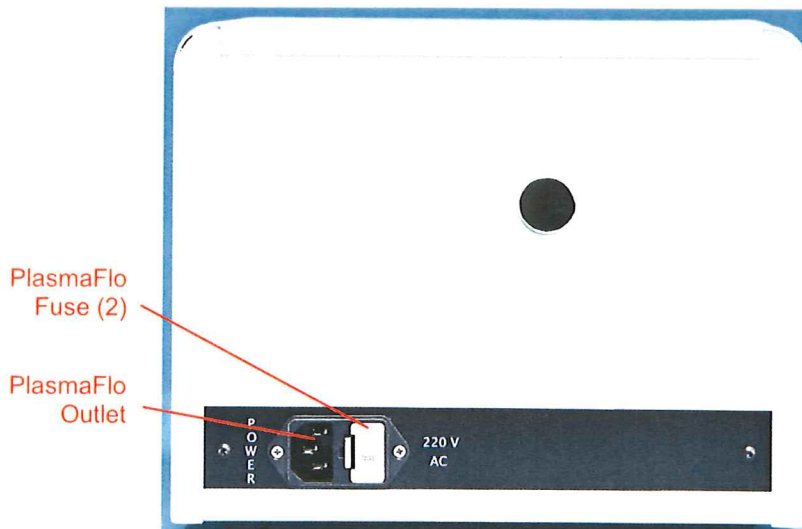
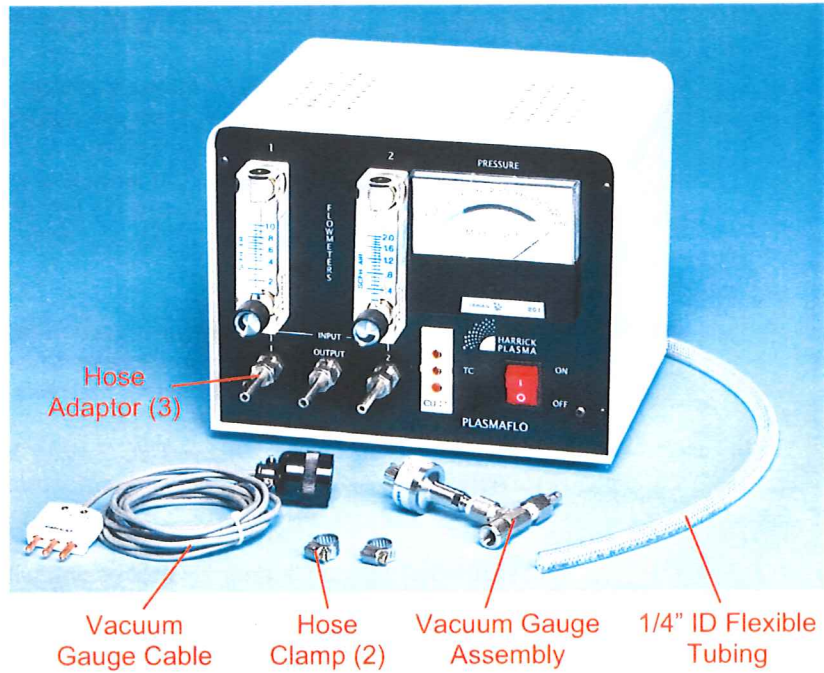

Figure 7 • PlasmaFlo (230V)
Figure 8 • PlasmaFlo and Accessories
NOTE: *To monitor and control the pressure and rate of process gas flow, we recommend using the optional PlasmaFlo (Figure 7).*
Before starting, take a few moments to familiarize yourself with the PlasmaFlo by looking at the images of the front and back of the unit (Figure 7) and the PlasmaFlo accessories (Figure 8).
- Connect the three (3) hose adaptors to the two (2) inputs and output on the PlasmaFlo (Figure 8). Tighten with a wrench.